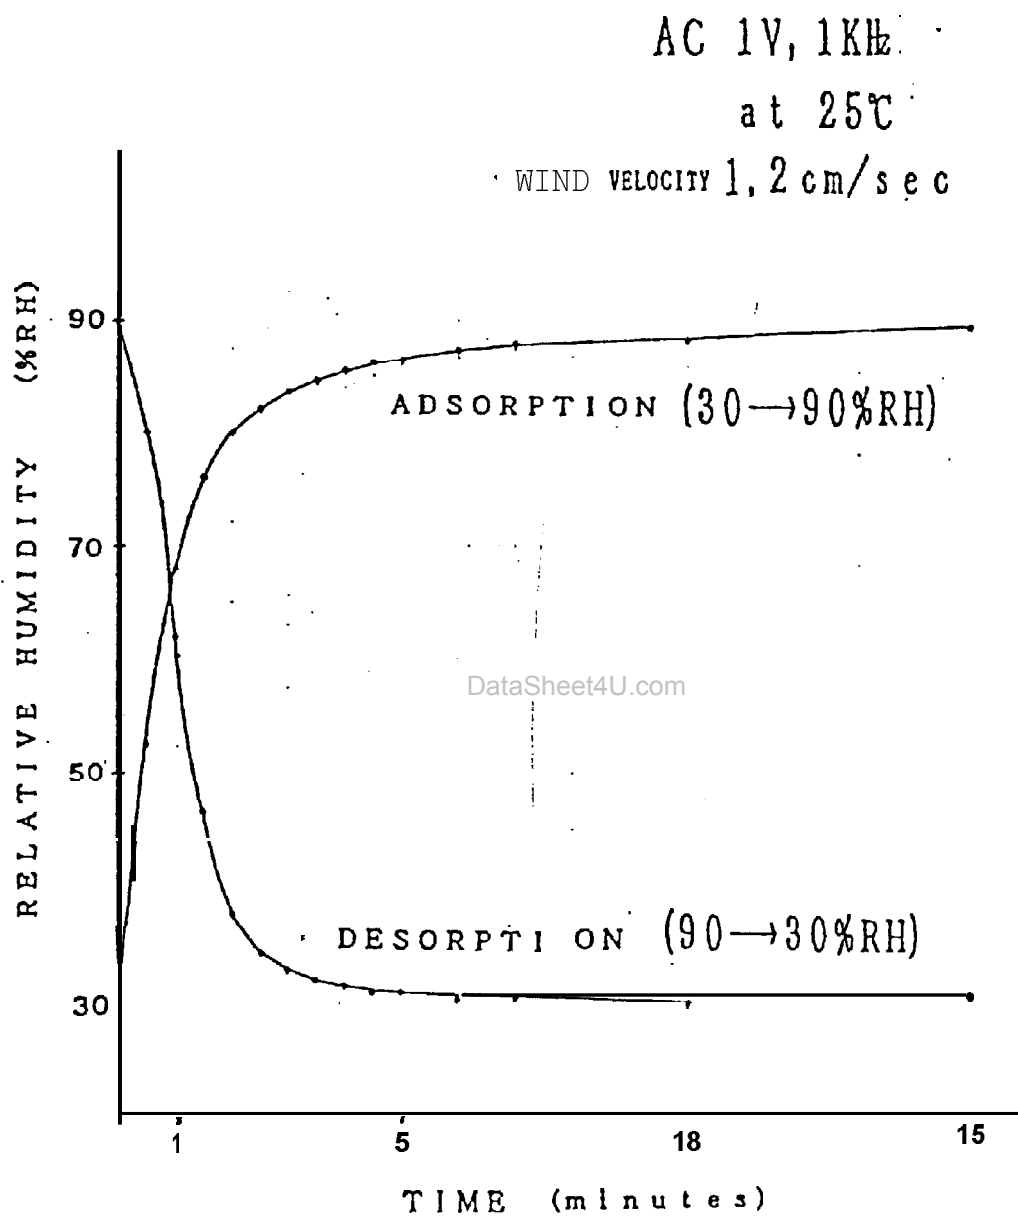

Fig. 2 Typical Humidity Response Characteristics
13. Typical Humidity Response Characteristics : Shown in Fig. 2.